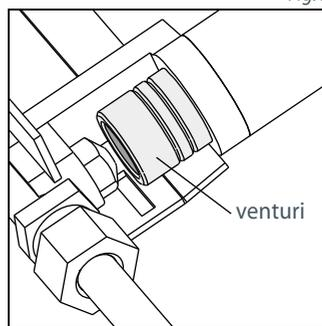

Fig. 2
- 8 Reset the venturi (see Fig. 2):